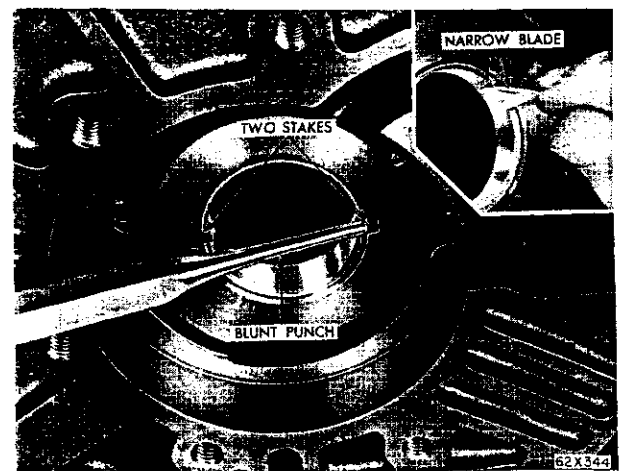

Fig. 83—Staking Front Pump Bushing—TorqueFlite Six
(6) Drive the bushing into the housing until the tool "bottoms" in the pump cavity. Be careful not to cock the tool during installation.
(7) Stake the bushing in place by using a blunt punch or similar tool (Fig. 83). A gentle tap at each stake slot location will suffice.
(8) Using a narrow-bladed knife or similar tool,
remove the high points or burrs around the staked area (Fig. 83). Do not use a file or similar tool that will remove more metal than is necessary.